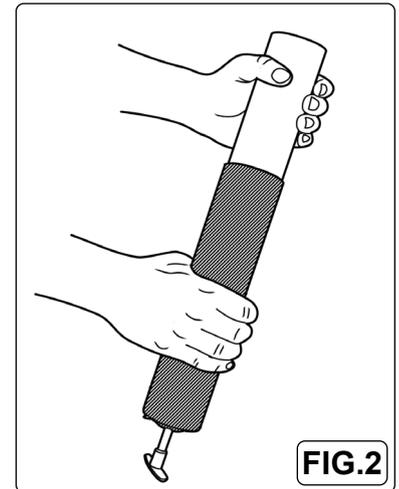

FIG.2
- 4.3.3. Insert the open end of the cartridge into the grease tube and push it all the way in (Fig.2). Remove the seal or pull tab end from the cartridge.